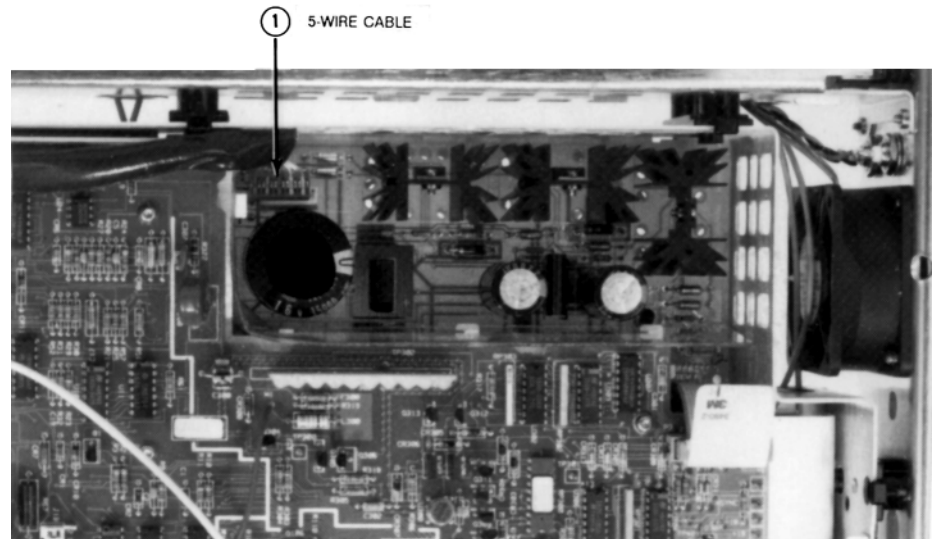

Figure 17. Remove/Install Transformer Cable on Inguard Power Supply
3. Refer to Figure 17. Unplug the 5-wire cable from the Inguard Power Supply assembly. This cable is connected to the power transformer.
7. Refer to Figure 17. Locate the cable connected to the power transformer. Line up the cable plug with the socket on the Inguard Power Supply assembly. Then plug the cable in.